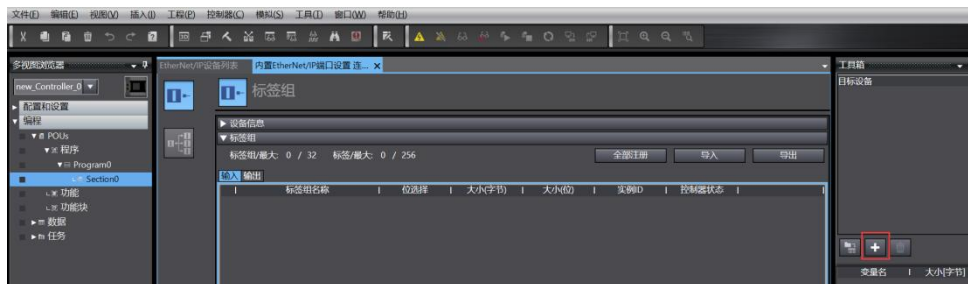
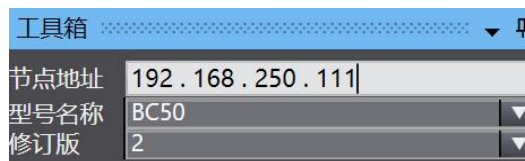

Fig87. PLC EIP-Add the target device
Fig88. PLC EIP-Set the target device information
- Click the Add Target device on the right (see Fig 87), In the toolbox on the right, set the node address: 192.168.250.111 (IP address of BC50 equipment), model name: BC50, revision: 2, eg Fig 88.